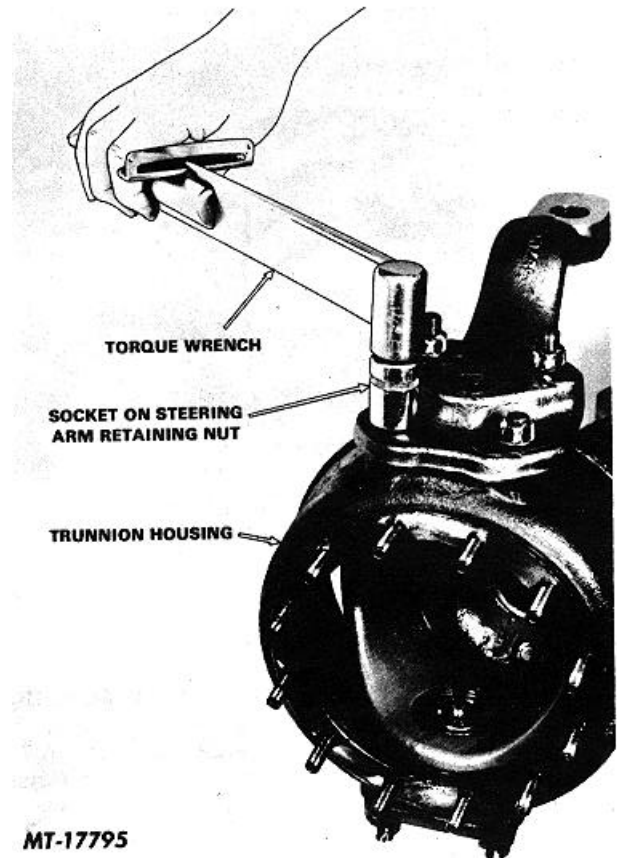

Fig. 20 Checking Bearing Adjustment
4. Check trunnion bearing adjustment by placing a torque wrench on trunnion cap or steering arm retaining nut and swinging trunnion housing. Torque should be 11 to 20 Newton Meters (8 to 15 ft.lbs.). To increase torque, remove shims, to decrease torque, add shims. See Fig. 20.